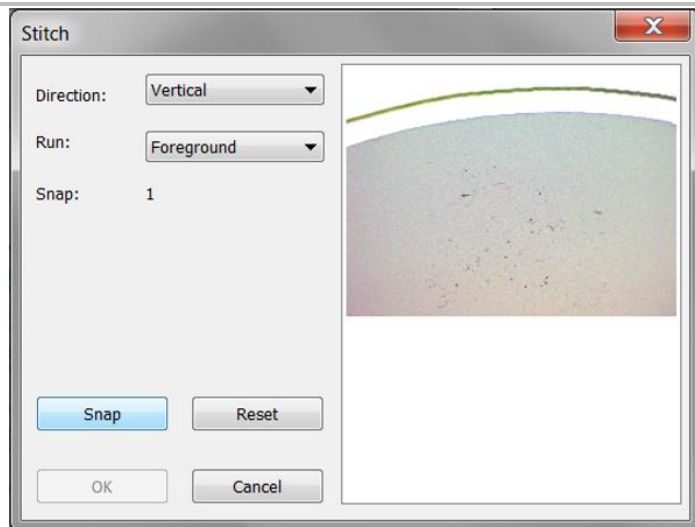

Figure 42. Stitch dialog in advanced stitching method
- 4) Set the **Direction** to Vertical and **Run** to Foreground, as shown in Figure 42.